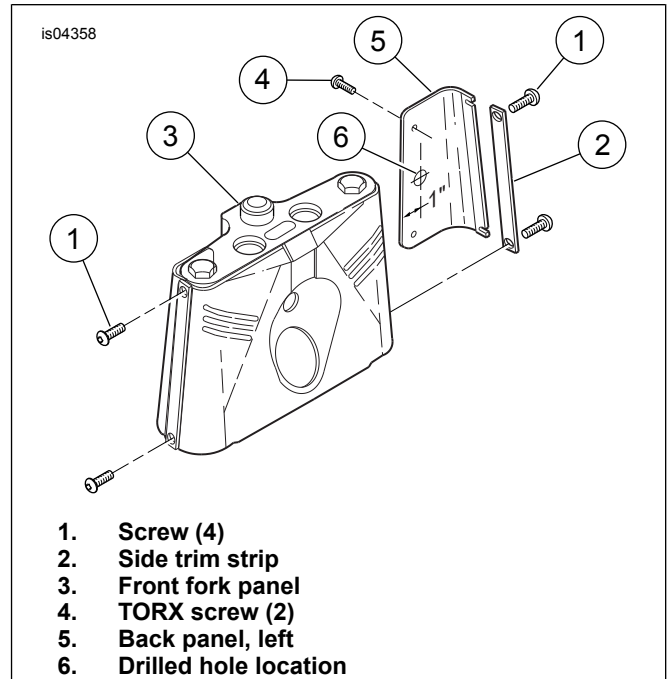
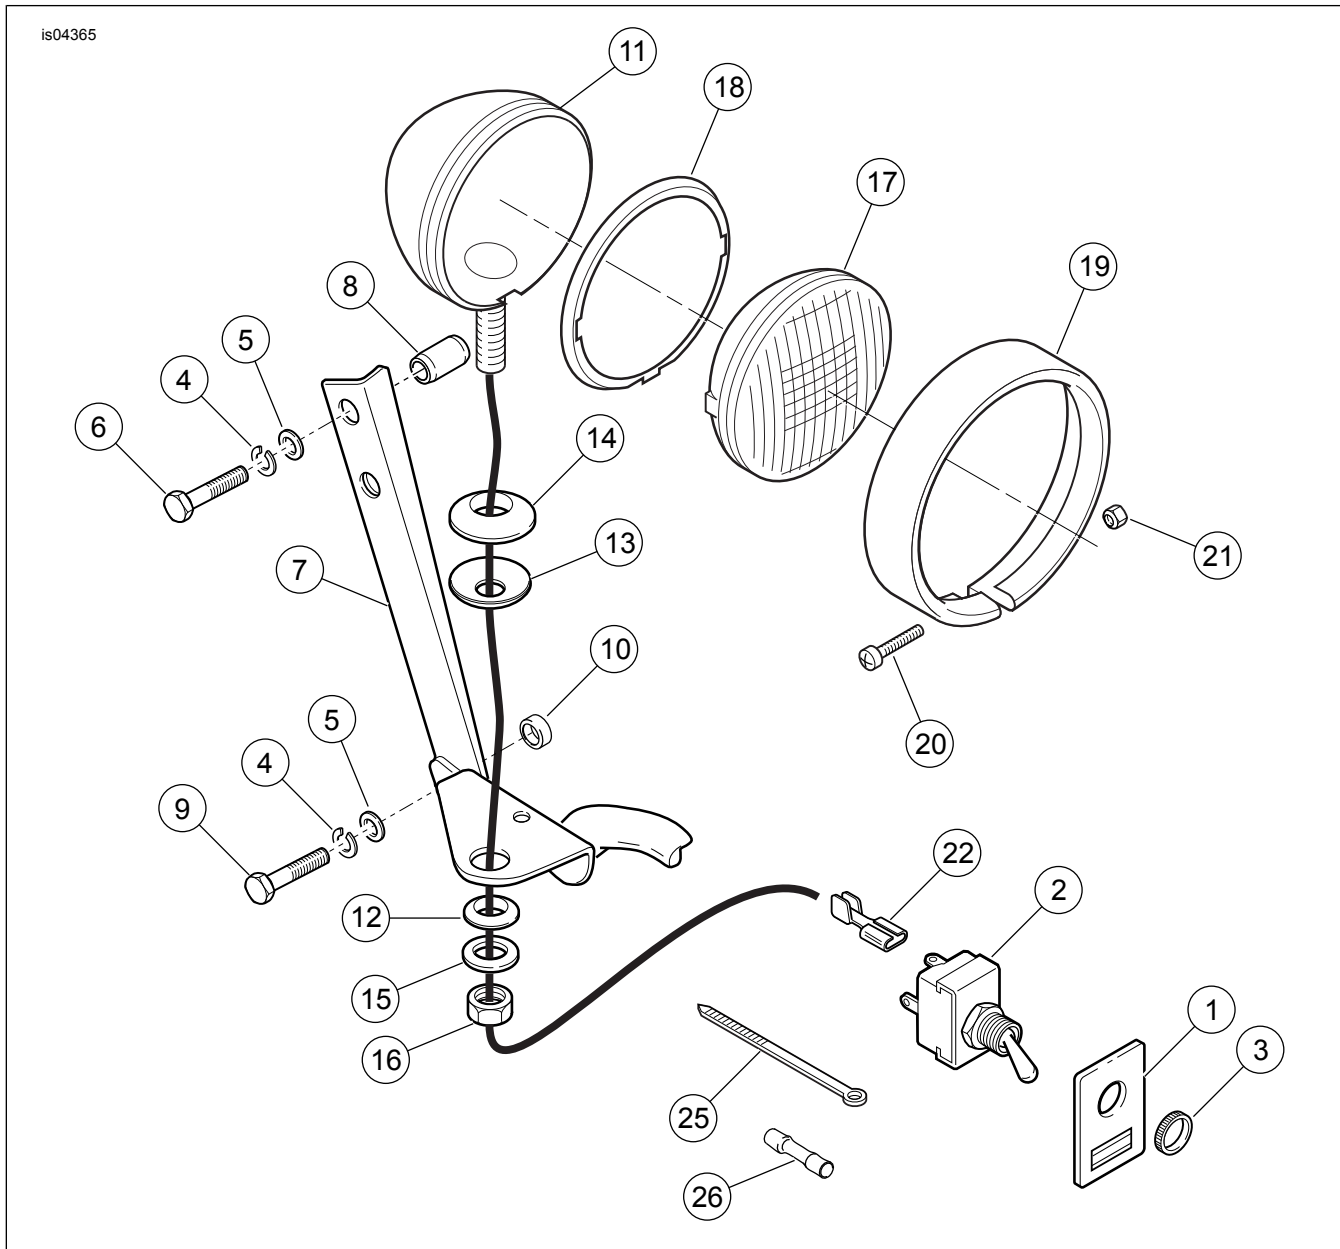

Figure 1. Toggle Switch Hole
Figure 5. Service Parts: Auxiliary Lamp Kit
See Figure 5 and Table 1.
1. See Figure 1. Remove and discard two screws (1) and side trim strips (2) from each side of the fork trim panel (3).
2. Unfasten TORX[®] screws (4) and remove back panel (5) from front fork trim panel.
4. Drill a small lead hole (6) at the location indicated. Enlarge the hole to 1/2 in. (13 mm) diameter.
5. See Figure 5. Attach adhesive label (1) around drilled hole (Figure 1, Item 6). Mount toggle switch (2) in hole using knurled nut (3). Set back panel aside for later wiring.
6. Place lockwasher (4) and washer (5) on two bolts (6). Insert bolts through upper holes in bracket (7) and through spacer (8). Thread into upper holes of fork bracket and through trim panel finger tight.
- Place lockwasher (4) and washer (5) on two bolts (9). Insert bolts through lower holes in bracket (7) and through spacer (10). Thread into bottom holes of fork bracket and through trim panel finger tight.
- Attach auxiliary lamp housing (11) to bracket using hardware (12-16) in the sequence shown in Figure 5.
- See Figure 3. Combine wire ends from both auxiliary lamps (1) and terminate them with one of the spade terminals (Figure 5, Item 22).
- Attach connector (2) to the nearest terminal on the toggle switch (3).
- Auxiliary lamp (2)
- See Figure 5. Terminal one end of cable wire (23) with remaining single spade connector (22) and attach connector to remaining terminal on toggle switch (2). Slide conduit (24) over cable wire.
- See Figure 1. Attach left side panel (5) to front fork panel (3) under left side of auxiliary lamp bracket.
- Route wires so they are not pinched between the trim panel and fork bracket. Use cable straps (25) to secure wires to fork bracket and motorcycle frame.
- See Figure 5. Remove outer trim ring (21) and auxiliary lamp (17).
- Route end of toggle switch wire into headlamp housing (11) through grommet in rear of housing. Refer to HEADLAMP REMOVAL/INSTALLATION in Service Manual.
- See Figure 3. Connect toggle switch lead to the low beam (yellow) wire from headlamp socket with butt splice connector (Figure 5, Item 26) from kit.